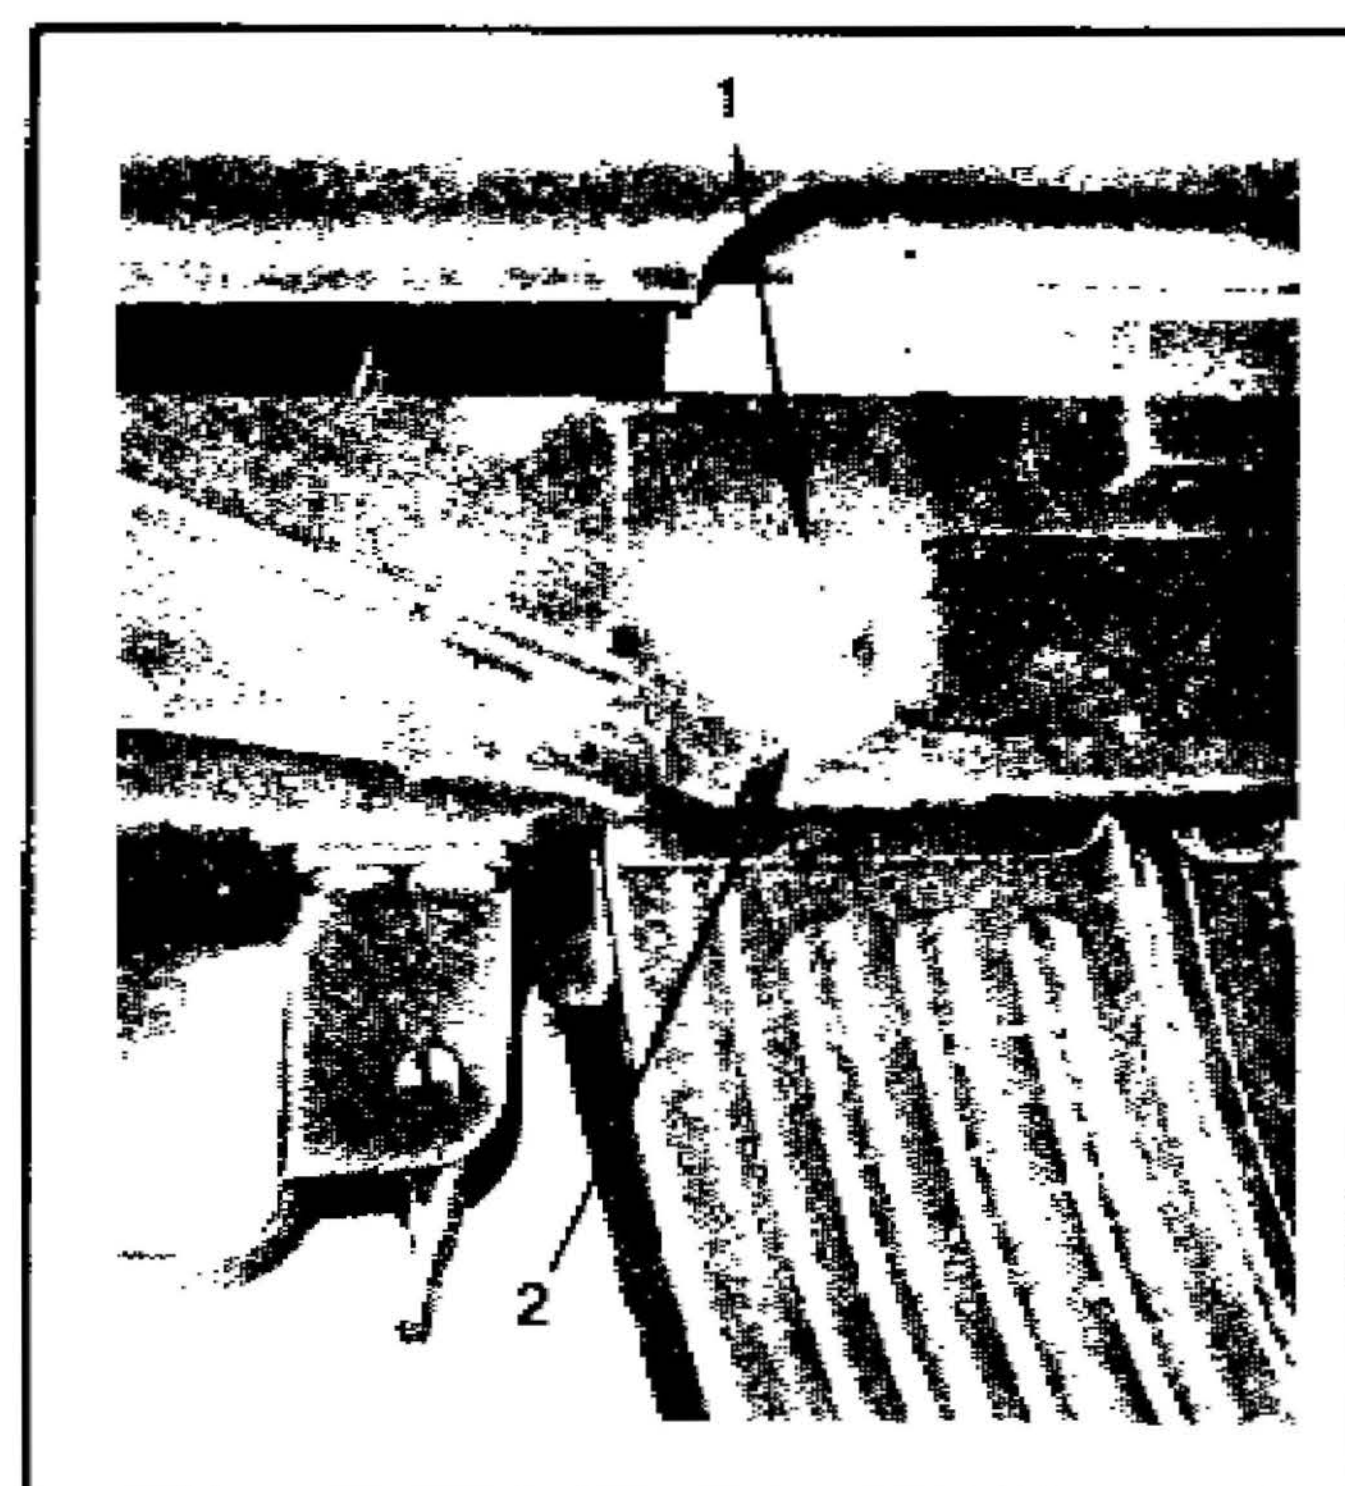

FIGURE 12. SELECTOR IN FIRING POSITION
**Firing the AK-47:** Place the selector on the desired position (automatic middle position, and semi-automatic lower position)(fig 12). Aim using a normal sight picture and pull the trigger.